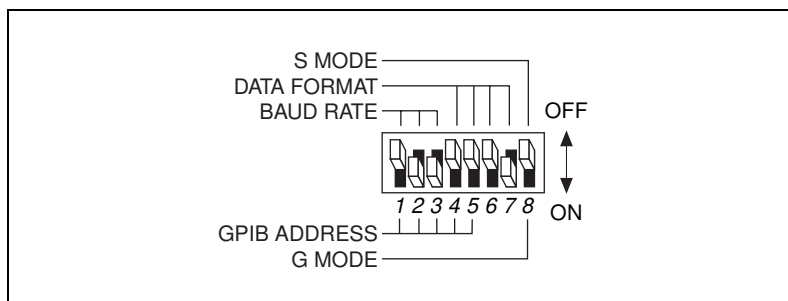

Figure I-1. Sample Switch Settings for a Terminal and HP Plotter
2. Set the configuration switches on the GPIB-232/485CT-A so that they match the terminal characteristics. Figure I-1 shows how to configure the GPIB-232/485CT-A if your terminal has the following characteristics: